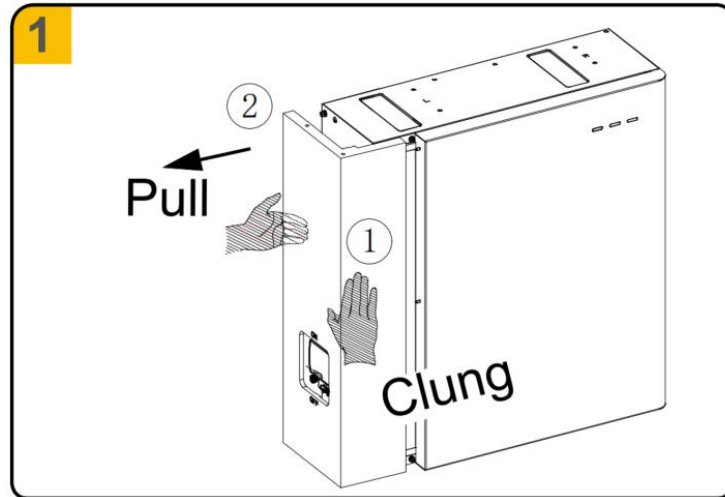

Figure 6-33 Disassemble Cable Cover
2. Disassemble the cable cover of the battery, Refer to 1 in Figure 6-33.